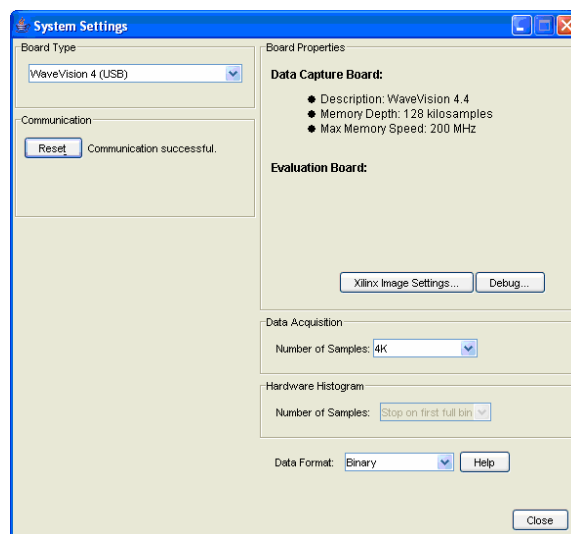

Figure 9: System Settings window
2. From the WaveVision main menu, go to Settings and then Capture Settings to open the System Settings window (Figure 9) and select the following: